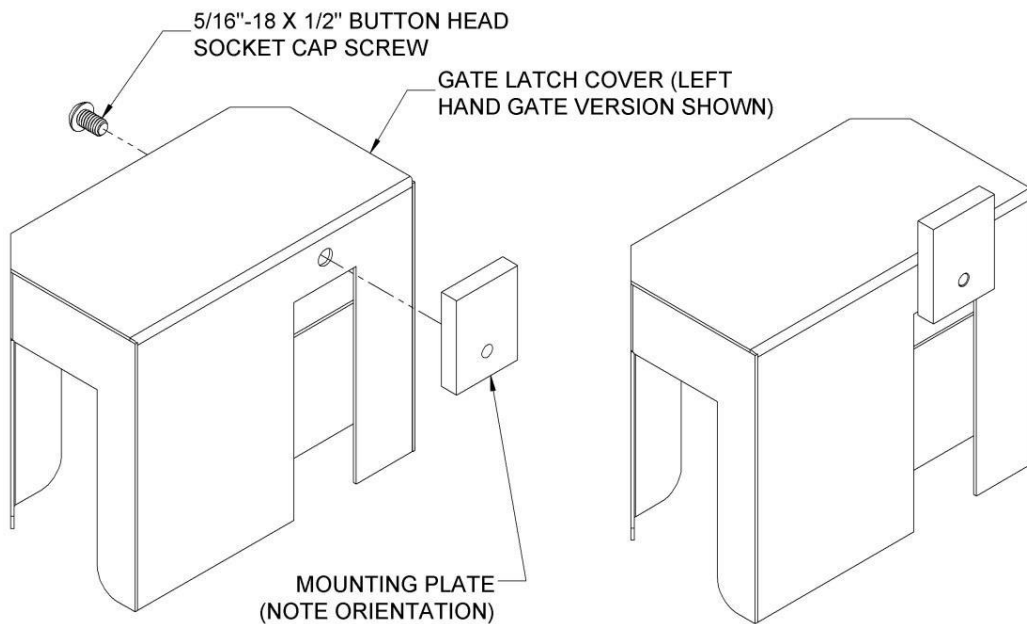

FIG. 9.11
- 9.5.3.2. Attach mounting plate loosely to the back side of the latch cover with provided 5/16"-18 x 1/2" button head socket cap screw (FIG. 9.11).